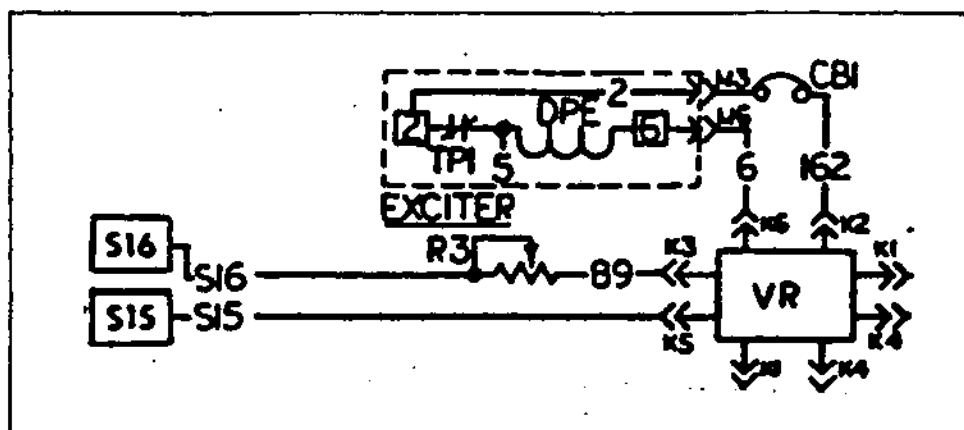

Figure 3.4-G. Voltage Adjust Potentiometer Circuit
3.4.9- OPTIONAL MANUAL/OFF/AUTO SWITCH (Figure 3.4-A, 3.4-H)